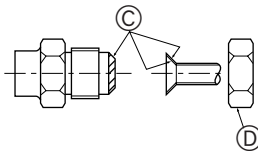

Fig. 5-4
Ⓐ (Fig. 5-4)
Ⓑ (Fig. 5-4)
5.5. Connecting pipes (Fig. 5-4)